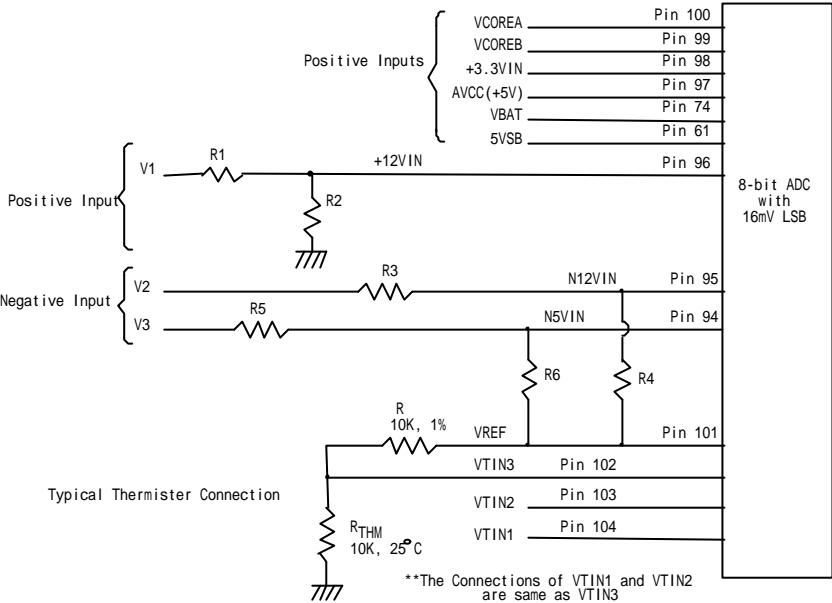

Figure. 9.2
The maximum input voltage of the analog pin is 4.096V because the 8-bit ADC has a 16mv LSB. Really, the application of the PC monitoring would most often be connected to power suppliers. The CPU V-core voltage ,+3.3V ,battery and 5VSB voltage can directly connected to these analog inputs. The +12V,-12V and -5V voltage inputs should be reduced a factor with external resistors so as to obtain the input range. As Figure 9.2 shows.
The negative voltage should be connected two series resistors and a positive voltage VREF (is equal to 3.6V). In the Figure 9.2, the voltage V2 and V3 are two negative voltage which they are -12V and -5V respectively. The voltage V2 is connected to two serial resistors then is connected to another terminal VREF which is positive voltage. So as that the voltage node N12VIN can be obtain a posedge voltage if the scales of the two serial resirtors are carefully selected. It is recomanded from Winbond that the scale of two serial resistors are R3=232K ohms and R4=56K ohm. The input voltage of node N12VIN can be calculated by following equation.
The W83697HF can connect three thermistors to measure three different environment temperature. The specification of thermistor should be considered to (1)  $\beta$  value is 3435K, (2) resistor value is 10K ohms at 25°C. In the Figure 9.2, the thermistor is connected by a serial resistor with 10K Ohms, then connect to VREF (Pin 101).